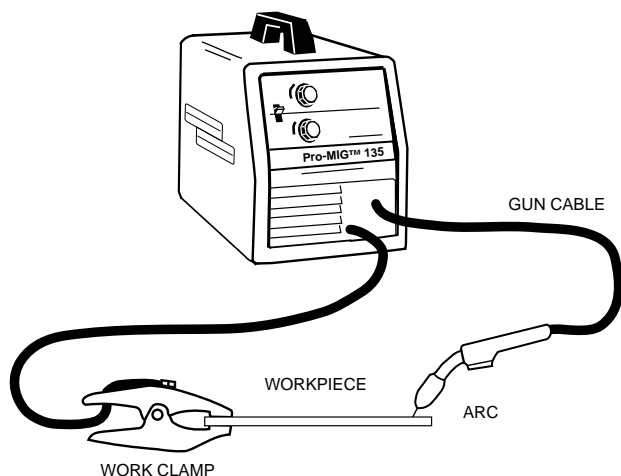

FIGURE B.7
6. Refer to Figure B.7. Connect work clamp to metal to be welded. Work clamp must make good electrical contact to the workpiece. The workpiece must also be grounded as stated in "Arc Welding Safety Precautions" in the beginning of this manual.
The operator's knowledge of arc welding must go beyond the arc itself. The operator must know how to control the arc, and this requires a knowledge of the welding circuit and the equipment that provides the electric current used in the arc. Figure B.7 illustrates the welding circuit for a typical welding machine. The circuit begins where the gun cable is attached to the welding machine. Current flows through the gun cable, gun, and contact tip, to the wire and across the arc. On the work side of the arc, current flows through the base metal to the work cable and back to the welding machine. This circuit must be complete for the current to flow.